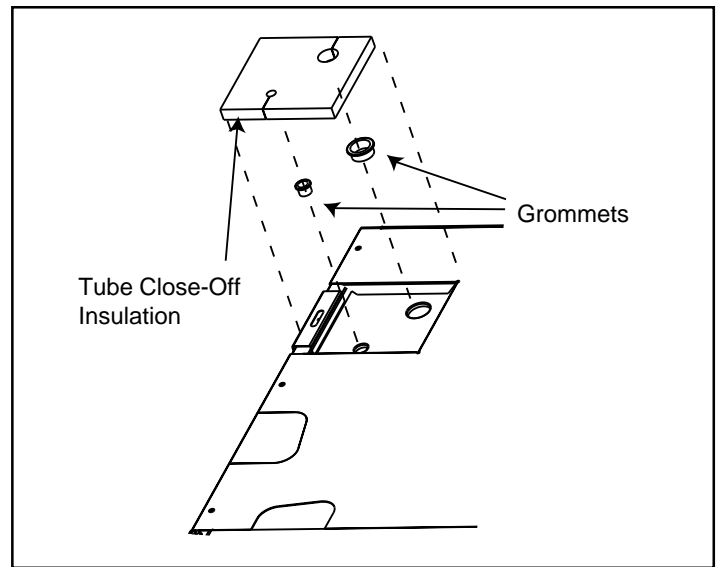

Figure 3. Placement of Grommets and Tube Close-Off Insulation (Line Set Tubing Not Shown for Clarity)
- d. Place the tube close-off insulation gasket over the tubes and press onto the tube close-off plate so it sits in the recessed area. (See Figure 3.)